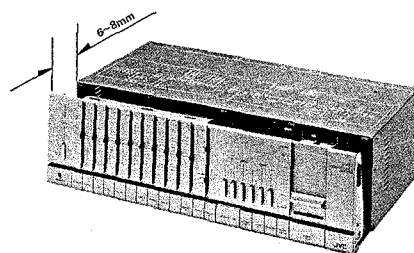

Fig. 26
- 3) Pull out Top Cover slightly (6 to 8cm) and lift it up. See Fig. 26.